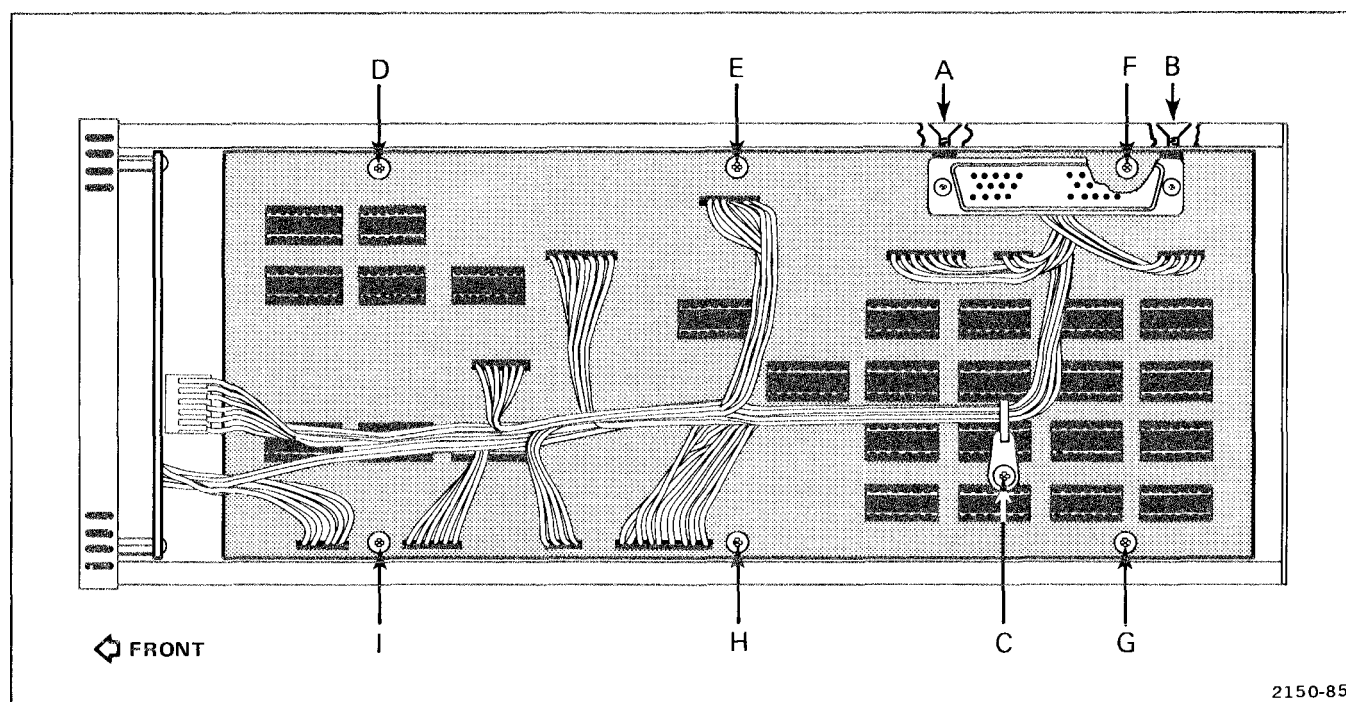

Figure 6-9. Locations of securing screws and hardware mounting screws on A4 Acquisition circuit board.
1. Remove 3 screws (A, B, and C on Figure 6-9).